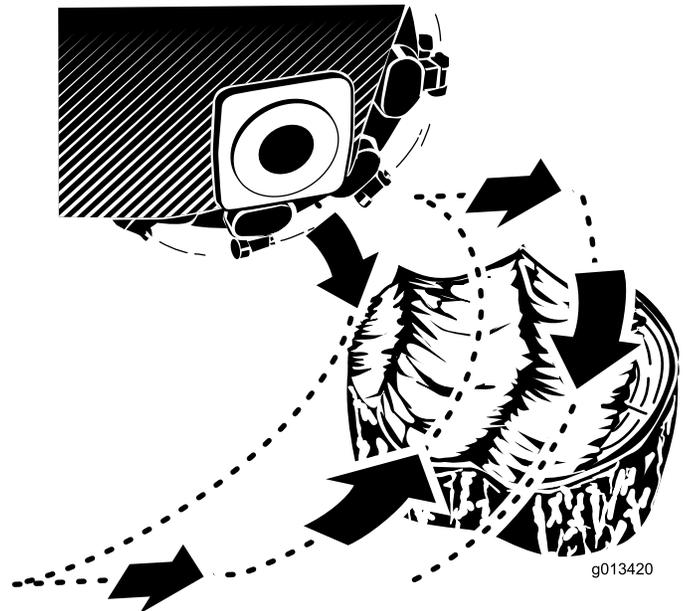

Figure 22
2. Use the grinder control lever and the traction control to position the grinder to the side of the front of the stump, about 2 cm (1 inch) below the surface (Figure 22).
4. Use the grinder control lever to swing the grinder slowly across the face of the stump, cutting away a swath of chips (Figure 22).
5. Move the machine forward a few centimeters (inches) and repeat step 4 (Figure 22).
6. Repeat steps 4 through 5 until you ground off the entire face of the stump (Figure 22).